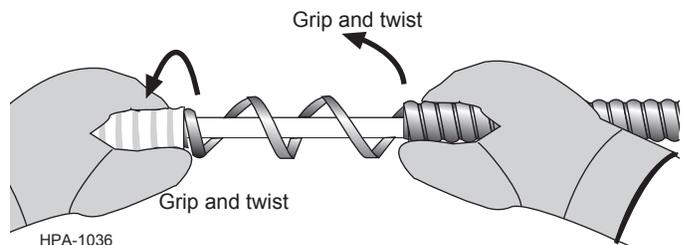

Figure 19
**5.9** FIRMLY grip the cable on both sides of the C mark. While maintaining a firm grip, twist the cable in opposite directions to make the armor expand and the separate (Figure 19).